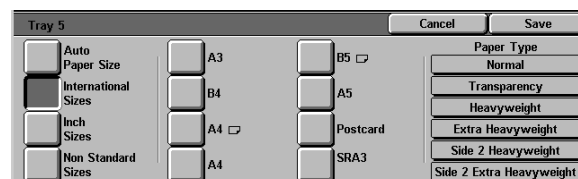

Figure 27: Tray 5 International Paper Sizes
- Touch **International** and select one of the preset international sizes, such as A3 or A4, as shown in Figure 27.